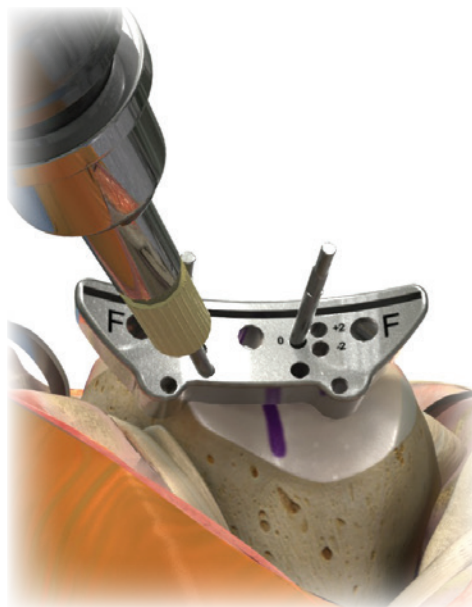

Figure 7
10. Once resection level and alignment are determined, insert a third pin into the angled pin hole to secure the Universal Cutting Block in position (Figure7).